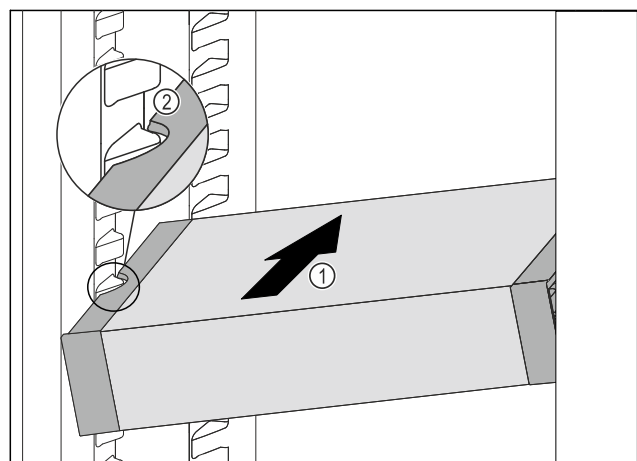

Fig. 94
- ▶ Insert the VarioSafe into the fridge section at an angle Fig. 94 (1) until the recesses in the side Fig. 94 (2) of the VarioSafe are at the level of the support rib in the fridge section.